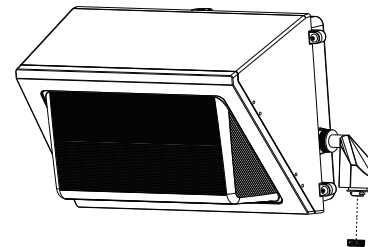

Fig. 20
6. Close the luminaire and remove the cover from the CEA-RDB. (See Fig. 20)